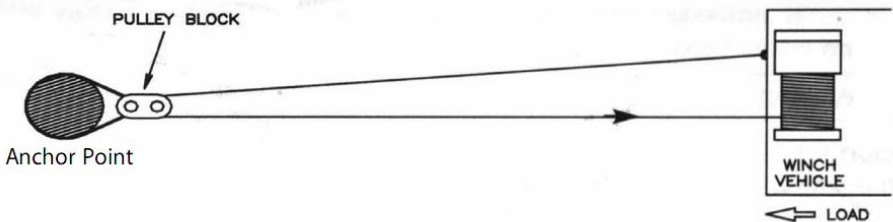

Figure 19
4. Figure 19 illustrate a method of rigging used to obtain a mechanical advantage. The use of a pulley block almost doubles pulling line capacity. (Please note the pulley block is not included)